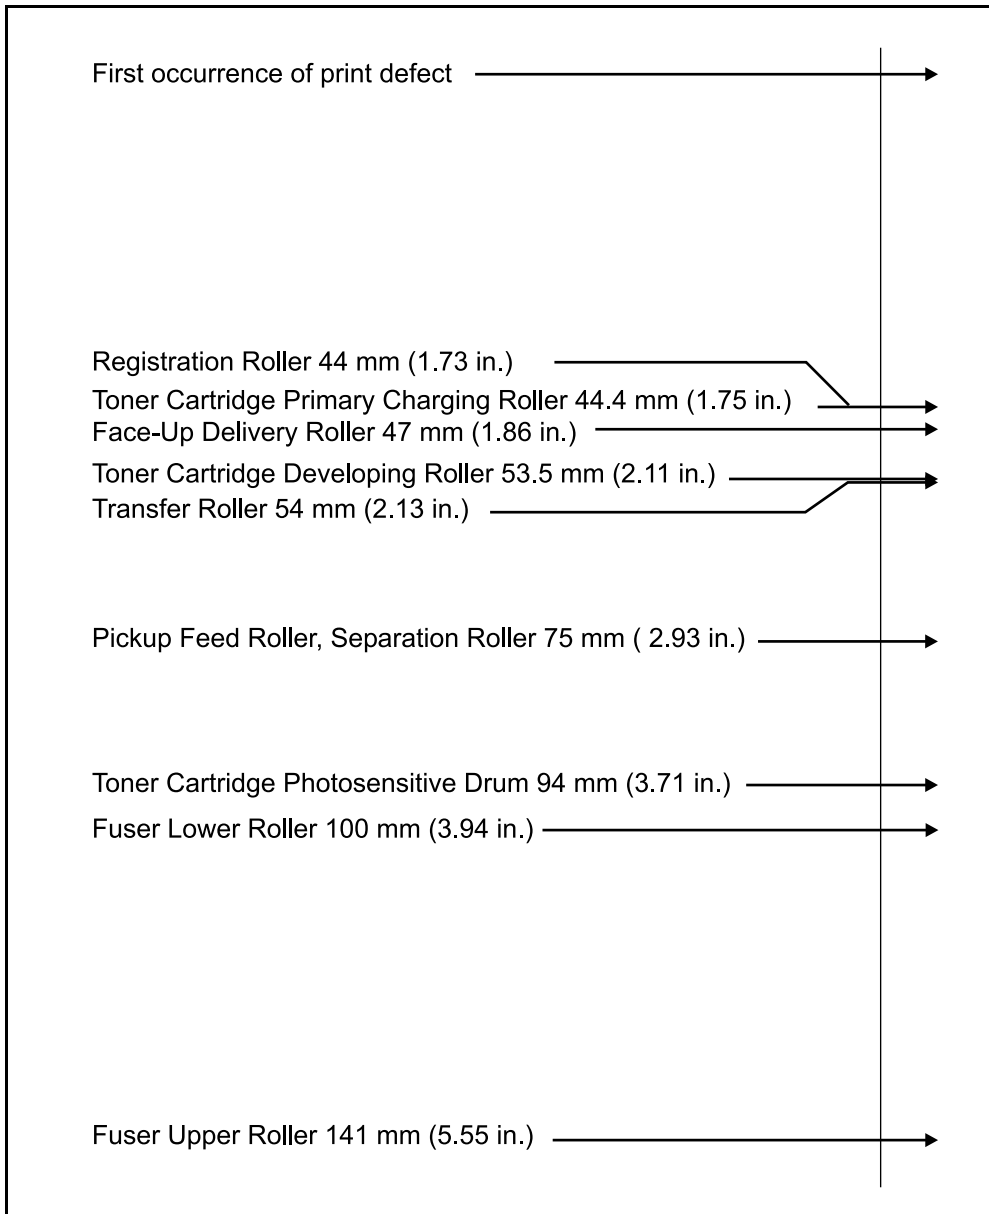

Figure 7-21 Repetitive Defect Ruler
1. Toner cartridge is damaged. If the defect repeats at any of the following intervals and in the direction of paper movement, it is associated with a component inside the toner cartridge. See figure 7-21 on page 665.	Inspect the drum for scratches or damage. Replace the toner cartridge. Use the Repetitive Defect Ruler, figure 7-21 on page 665.
Repetitive print defects are usually associated with a specific roller within the printer or the toner cartridge. Use figure 7-21 to isolate the cause of repetitive print defects. Align the first occurrence of the defect with the top of the “ruler” and measure to the next occurrence of the defect to determine the roller in question. When you are certain that your defect pattern matches the pattern of the ruler, replace the indicated roller.